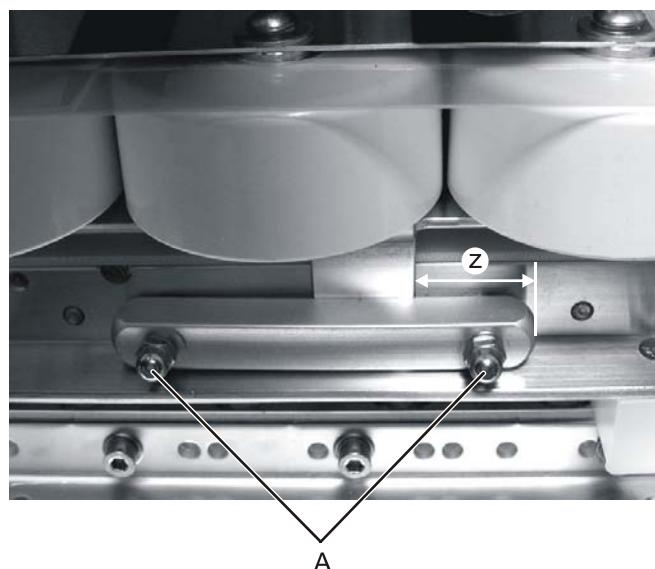

Figure 78: Storage capacitor array attachment clamp with screws
6. Note the distance between the edge of each of the copper strips on the capacitor bank and the edge of the respective attachment clamp (see Figure 78, distance z).
7. Use the 7 mm wrench to loosen (but not remove) the screws (see Figure 78, A) that secure each of the storage capacitor array attachment clamps.